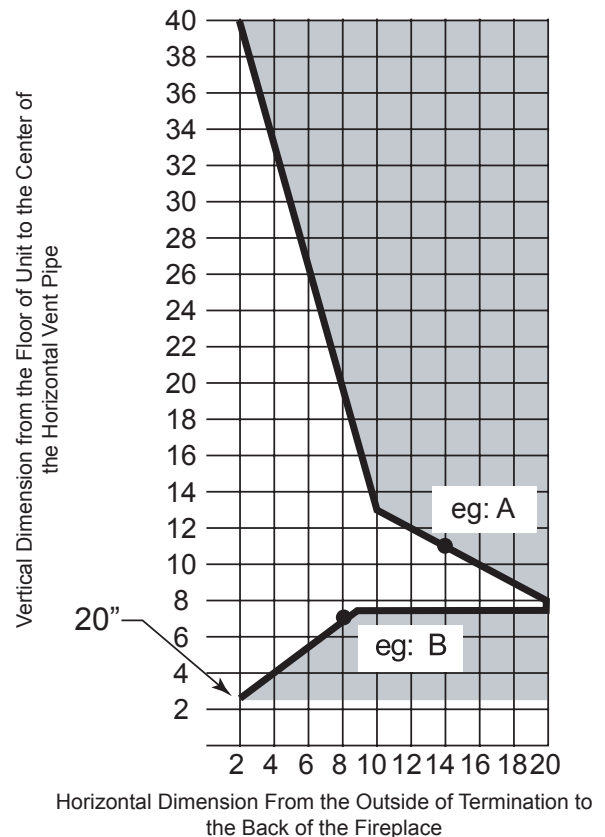

Figure 14 - Side Wall Venting Graph
1. Determine the height of the center of the horizontal vent pipe exiting through the outer wall. Using this dimension on the Sidewall Vent Graph, *Figure 14*, locate the point intersecting with the slanted graph line.